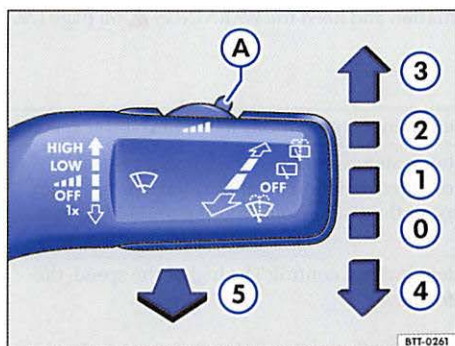

Fig. 77 Operating the front windshield wipers.
- Press the windshield wiper lever down briefly $\Rightarrow$ page 129, fig. 77 .